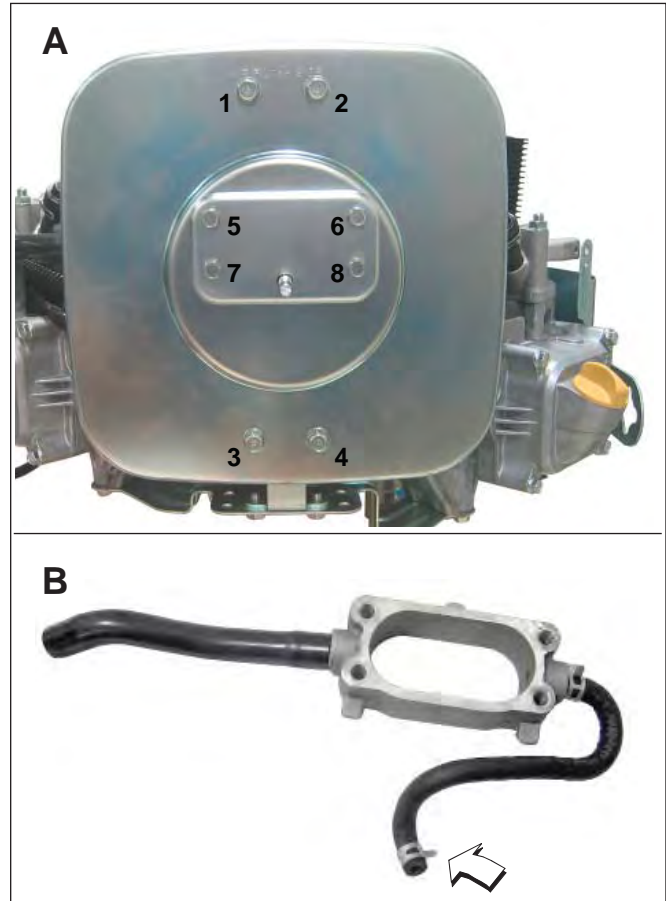

Figure 5-20 Air Cleaner Backplate/Throttle Body Adapter.
5. See A of Figure 5-20. Remove upper hex flange screws (1-2) to release air cleaner backplate from ECM/fuse block bracket.
8. See B of Figure 5-20. Squeeze clip and remove EVAP tube (to throttle body adapter) from top of fuel pump module.